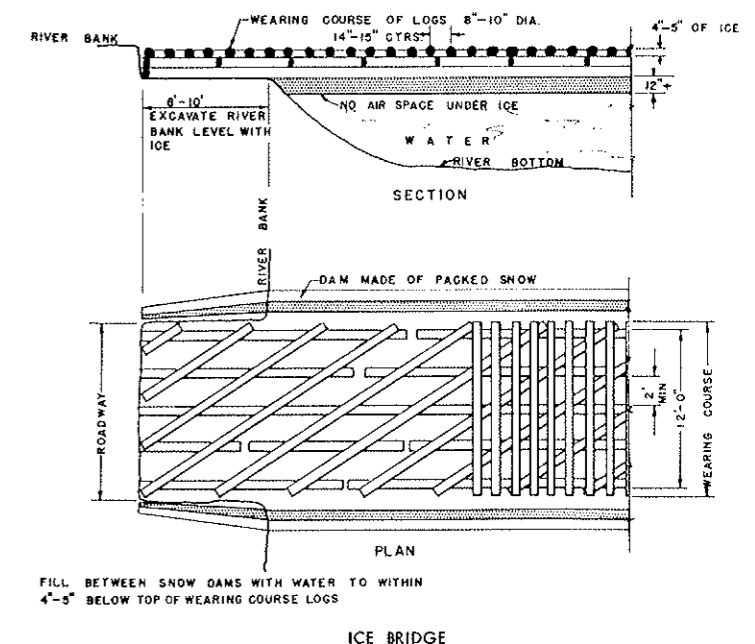

Figure 118.
4. How are ice-crossings made? How is the crossing reinforced to carry heavy loads? How many crossings would be used in a single tactical crossing (fig. 118)?